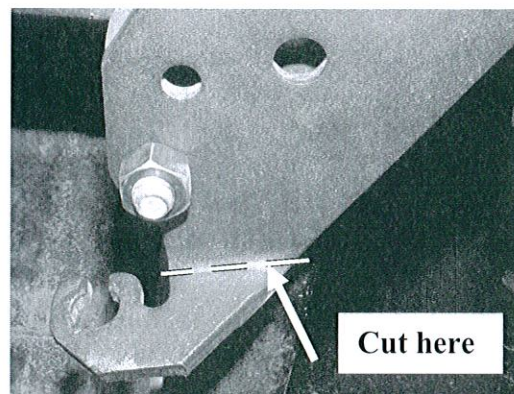

Fig 3 Original cable bracket
4. Club Car only: With a saw or other cutting tool, cut the cable bracket tab off of the spring bracket at the bend. (See Fig 3)